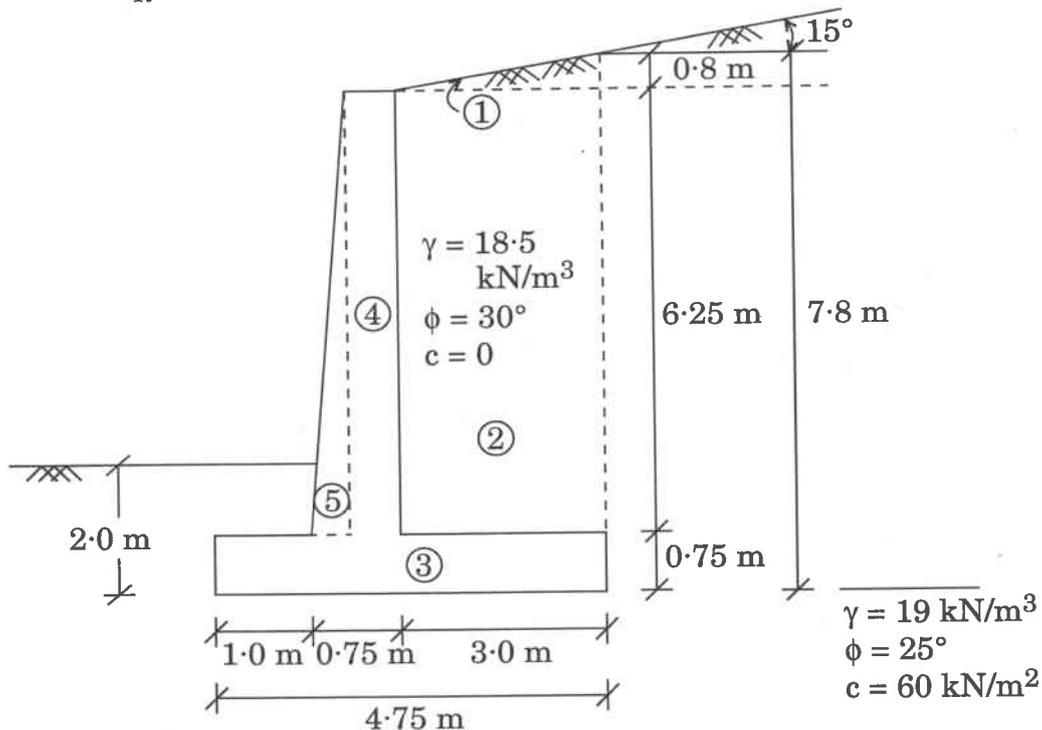

Figure 6(a)
- Q6. (a) A concrete retaining wall shown in Figure 6(a) is satisfying Rankine's condition. Check the stability of retaining wall with respect to (a) Overturning, (b) Sliding, and (c) Bearing Capacity. Neglect the passive earth pressure. Unit weight of concrete is  $24 \text{ kN/m}^3$ . Force resisting the horizontal movement of retaining wall can be determined from  $F_R = 0.55 (C)(B) + \sum V \tan \delta$ .